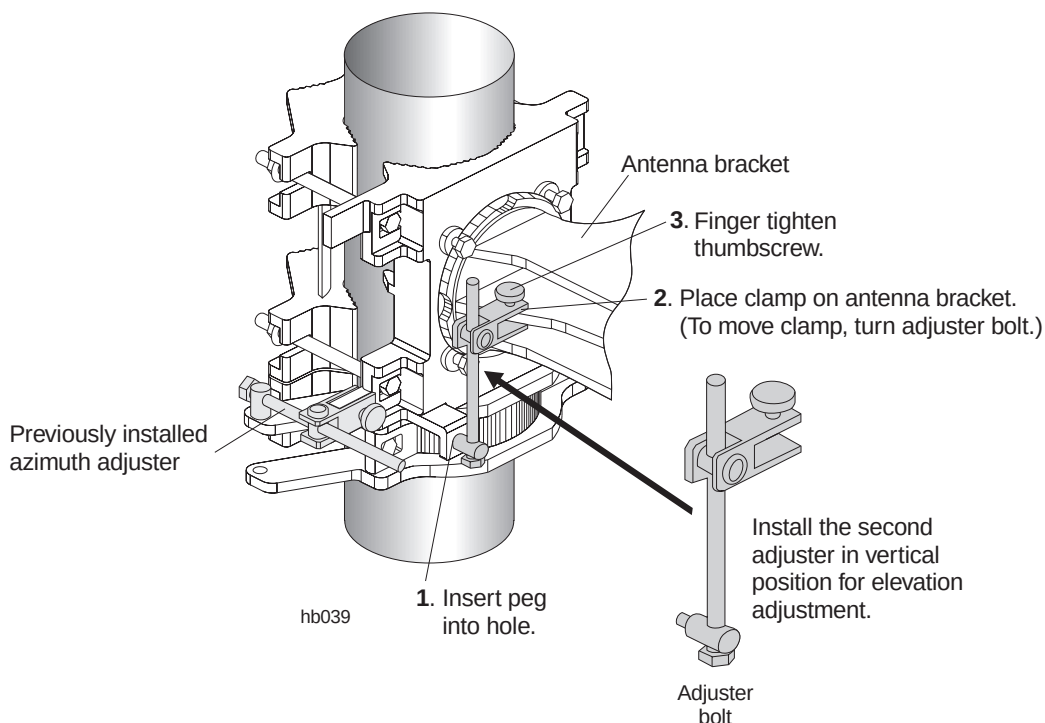

Figure 6-26 Installing the second adjuster, for elevation adjustment
1. Install the second azimuth/elevation adjuster as shown in figure 6-26.